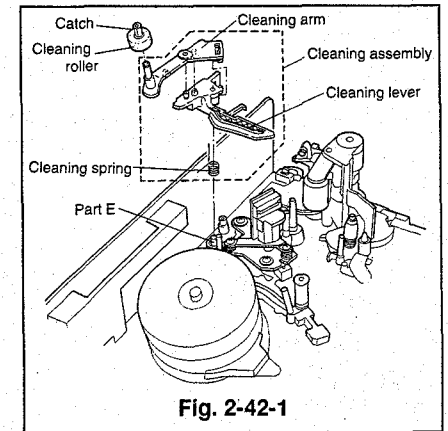
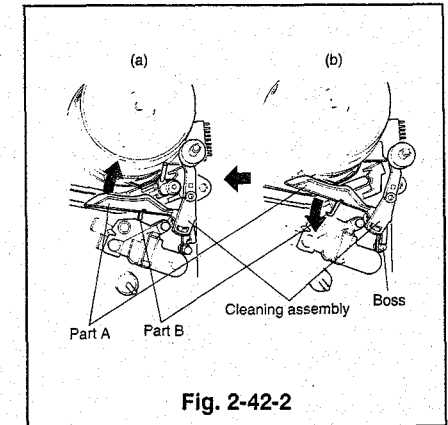
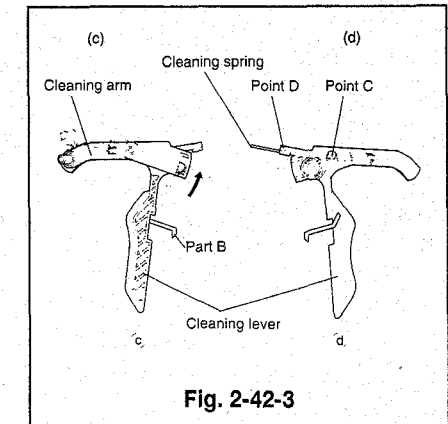

Fig. 2-42-1
Fig. 2-42-2
Fig. 2-42-3
- ① Remove the PCB-HA/AUDIO. (Refer to Para. 2-8 for the removal method.)
- ② Unfasten the catch to remove the cleaning roller. (Refer to Fig. 2-42-1)
- ③ Turn part A of the cleaning assembly clockwise as shown in Fig. 2-42-2 to release the catch part B Fig. 2-42-2 and Fig. 2-42-3(c). Release the catch part E and remove the cleaning assembly from the shaft.
- ④ Remove the cleaning spring to detach the cleaning arm and the cleaning lever.
- ① Attach the cleaning arm to the cleaning lever and turn it clockwise as shown in Fig. 2-42-3(c). Make sure that the cleaning arm and the cleaning lever turn without binding.
- ② Hook one end of the cleaning spring with the boss (C), projecting from the cleaning arm, and the other end to point D of the cleaning lever as shown in Fig. 2-42-3(d).
- ③ Place the cleaning assembly in the position shown in Fig. 2-42-1, and in the direction shown in Fig. 2-42-2(b). Turn the part A, shown in Fig. 2-42-2, counterclockwise to set the part B under the A/C plate of the A/C head assembly. Make sure that the spring hooks with the boss of the main plate shown in Fig. 2-42-2. Shift the part A in the direction shown by the arrow and release to make sure that it returns.
- ④ Insert the cleaning roller into the position shown in Fig. 2-42-1 to install it.